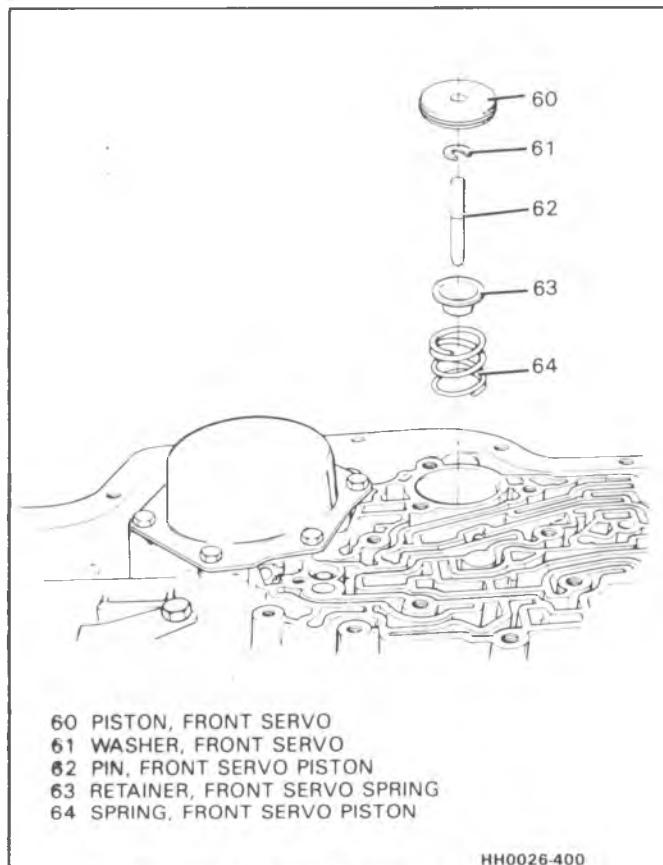

Figure 90 - Front Servo Assembly
**Inspect (Figure 90)**
- Servo piston (60) for:
- Piston pin (62) for wear
- Spring (64) for distortion
**Install or Connect (Figures 90, 91 and 92)**
1. Front servo piston spring (64) and retainer (63).
2. Washer (61), piston pin (62) and piston (60).
4. Six check balls (59) in case.